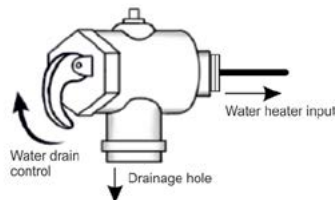

Fig. 7
- snap the drain knob to upper position until water flows from the valve opening (see Fig. 7). After this check of water flowing return the knob to initial position.